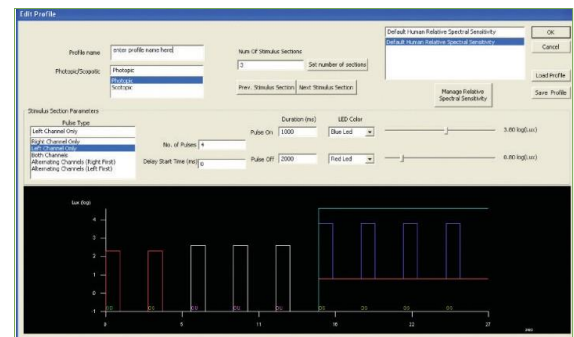

Figure 15 – The Edit Profile GUI, Section 3
**Section 3** (Figure 15) is defined by four pulses of blue light over a red background – intensity of the blue light is 3.80 logLux and intensity of the red background is 0.80 logLux. Only the left eye (OS) is stimulated.